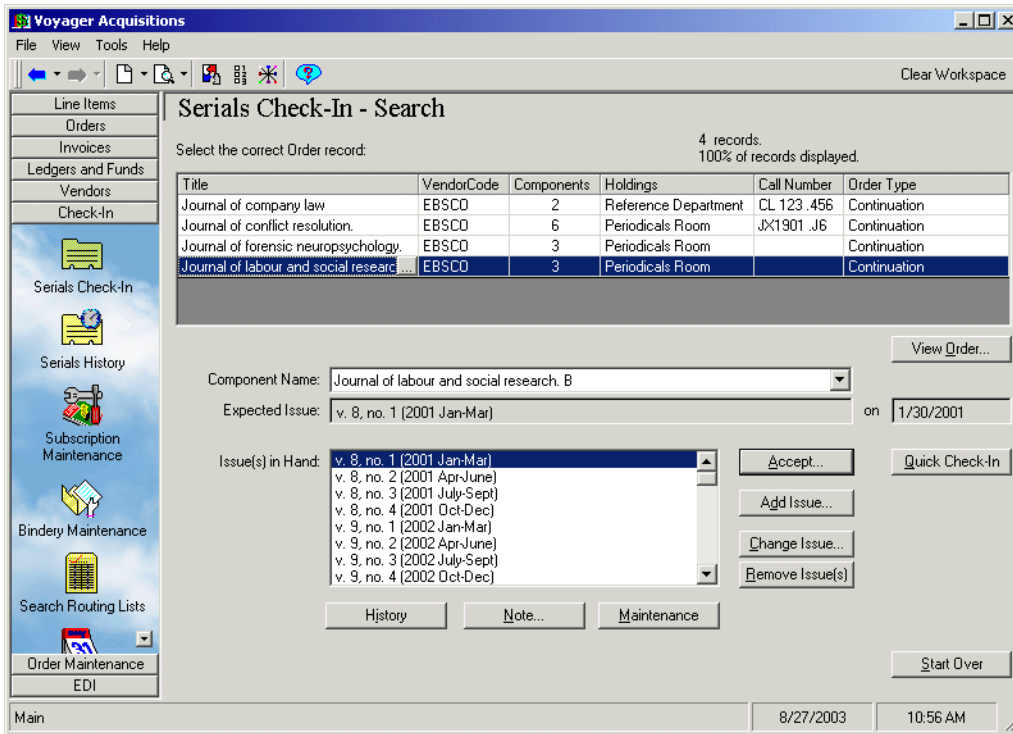

Figure 13-7. Serials Check-In workspace- ellipsis displayed in the Title column of the list of records
- The **ellipsis** button in the Title column (Figure 13-7) of the list of records that displays after searching for records in Serials Check-In. See Checking In Serials on page 9-4.
- The **ellipsis** button beside the **Title** field at the top of the **Serials Check-In - Receive/Mark** workspace (Figure 13-7), which displays after clicking the **Accept** button on the **Serials Check-In** workspace. See Figure 9-6 on page 9-10 for more information about the **Serials Check-In - Receive/Mark** workspace.